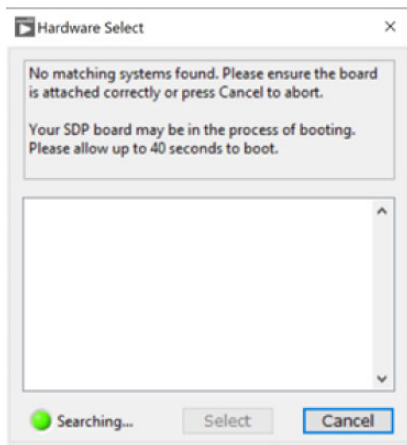

Figure 8. Hardware Select Window
2. When launching the software without connecting the evaluation board setup to the computer, the **Hardware Select** window appears as it searches for the connected hardware (see Figure 8).